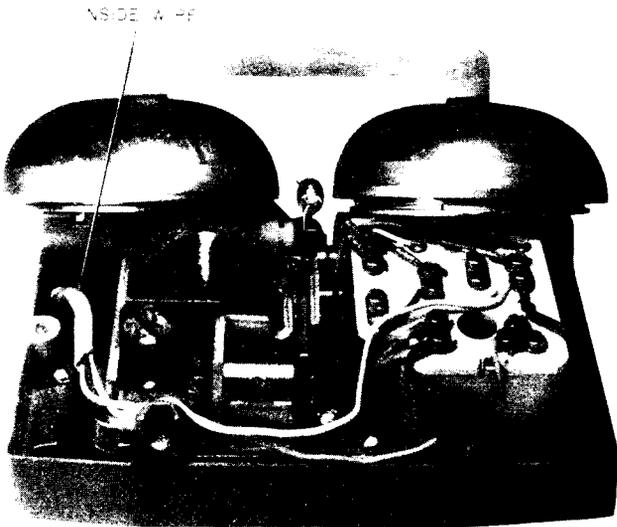

Fig. 5—Top View, Inside Wire Entering through Rear
3.06 Inside wire may enter ringer from back, front, bottom, or either side (See Fig. 5, 6, 7, and 8).